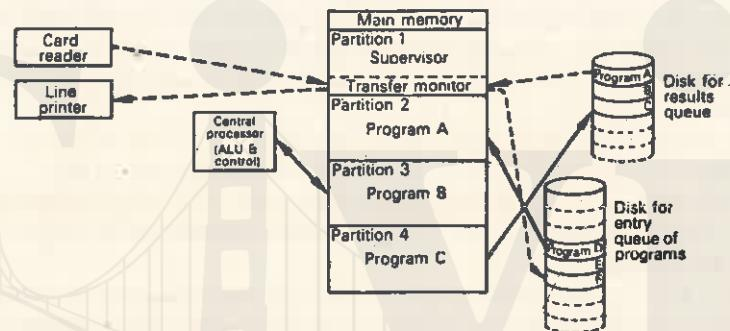

Fig. 36.34. Principle of a multi-programming system.
- The technique for having the computer handle several programs concurrently is known as *multi-programming* or *parallel processing*. The programs are placed in different sections of memory (Fig. 36.34). The computer can switch the CPU from one program to another. This task is incorporated into the overall operating system, usually called the *supervisor*, *monitor* (IBM) or the *executive* (ICL).
- In Fig. 36.34 the main memory is divided into *partitions*. The first partition is reserved for the supervisor, which has to remain in main memory all the time. The other three partitions (in this instance) each hold a program, A, B and C. Although there are more than two programs in main memory, only *one* is ever being executed at any point in time. Program B is currently being executed and Program C is passing some results to disk. Program A has completed its work and is being replaced by Program D from the entry *queue*. Note that a second disk is illustrated to hold the results of each program in separate areas. The *transfer monitor* (a part of the supervisor partition) is reserved permanently to organize the transfer of these queued results from the disk to the line printer. It is also used to build up the entry queue on disk, which has been input from a card reader (Program F in the diagram).